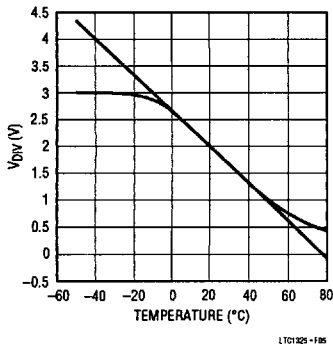

Figure 5. ERT-D2FHL103S Divider
Both values of β are close to each other. Substituting $\beta = 4085\text{K}$ into equation (3) gives $R_L = 10\text{k} \times [4085 - (2 \times 298)]/[4085 + (2 \times 298)] = 7.45\text{k}$. The nearest 1% resistor value is 7.5k. Figure 5 shows a plot of $V_{DIV}(T)$ measured at various temperatures for this thermistor with a 7.5k R_L .
Note that the discharge limits are wider than the charge limits. To prolong battery life, manufacturers generally recommend discharge temperatures that are similar to the charge limits. For this reason, the LTC1325 recognizes the same LTF and HTF limits in both charge and discharge modes. MCV should be set just above the charging voltage per cell given in battery specifications. The voltage at the LTF and HTF pins should be set to correspond to narrowest temperature range. These are typically 15°C and 45°C. The corresponding voltages may be read from the thermistor divider temperature curve such as that shown in Figure 5. For this thermistor, it works out to be about for 2.12V for LTF and for 1.13V for HTF. The MCV may be conveniently tied to LTF since MCV is typically 2V. If desired, external analog switches under microprocessor control may be used to vary the LTF, HTF and MCV voltages between modes or for different charge rates. The values of R1, R2, R3 and R4 in Figure 3 can be calculated from the following equations: